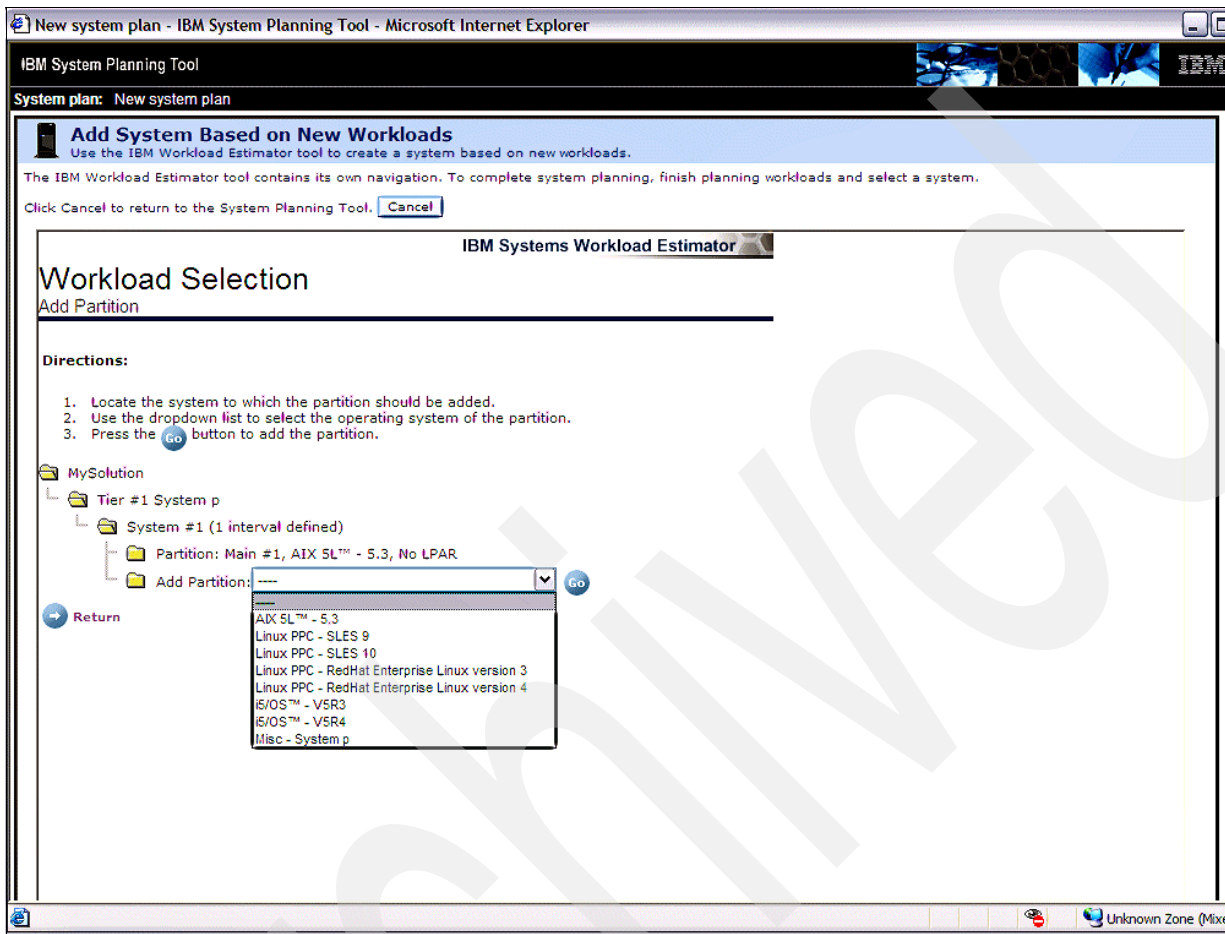

Figure 5-20 Select the type of partition
3. You may chose the type of each of the partitions that are added. This can be seen in Figure 5-20. Make sure to click **Go** for each partition. After all the partitions are added click **Return**.